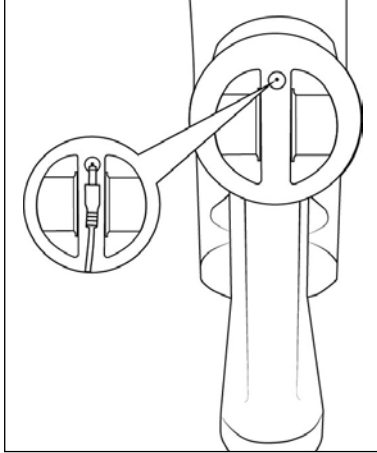
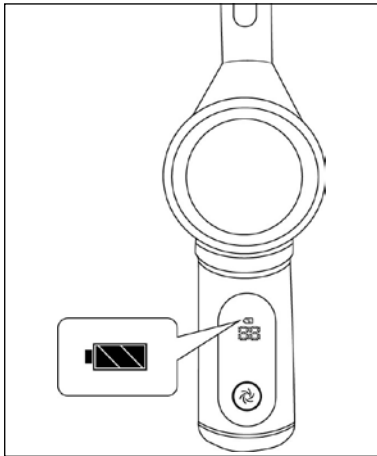

Fig. 6
Fig. 7
- ◆ Place the vacuum cleaner in the wall bracket **16** from above and insert the barrel plug **18** into the charging socket **30** on the appliance (see Fig. 6). The battery indicator **28** starts flashing and the charging process starts (see Fig. 7).